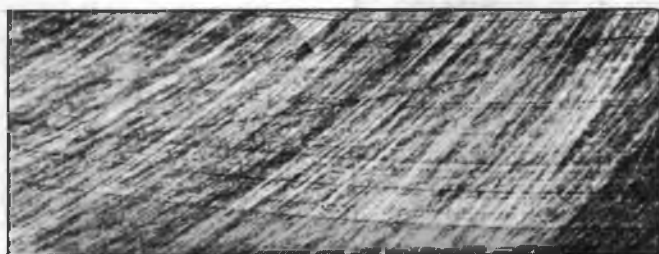

Fig. 74-Cylinder Finish Marks
3. When finish honing a cylinder bore to fit a piston, the hone should be moved up and down at a sufficient speed to obtain very fine uniform surface finish marks in a cross-hatch pattern of approximately 45° to 65° included angle. The finish marks should be clean but not sharp, free from imbedded particles and torn or folded metal (fig. 74).